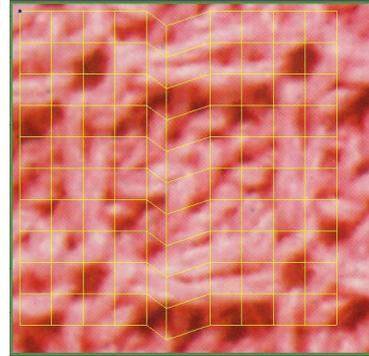

Figure 6-23E Confirm the new position
- iii. Single click again the mouse over the new position (Figure 6-23E).